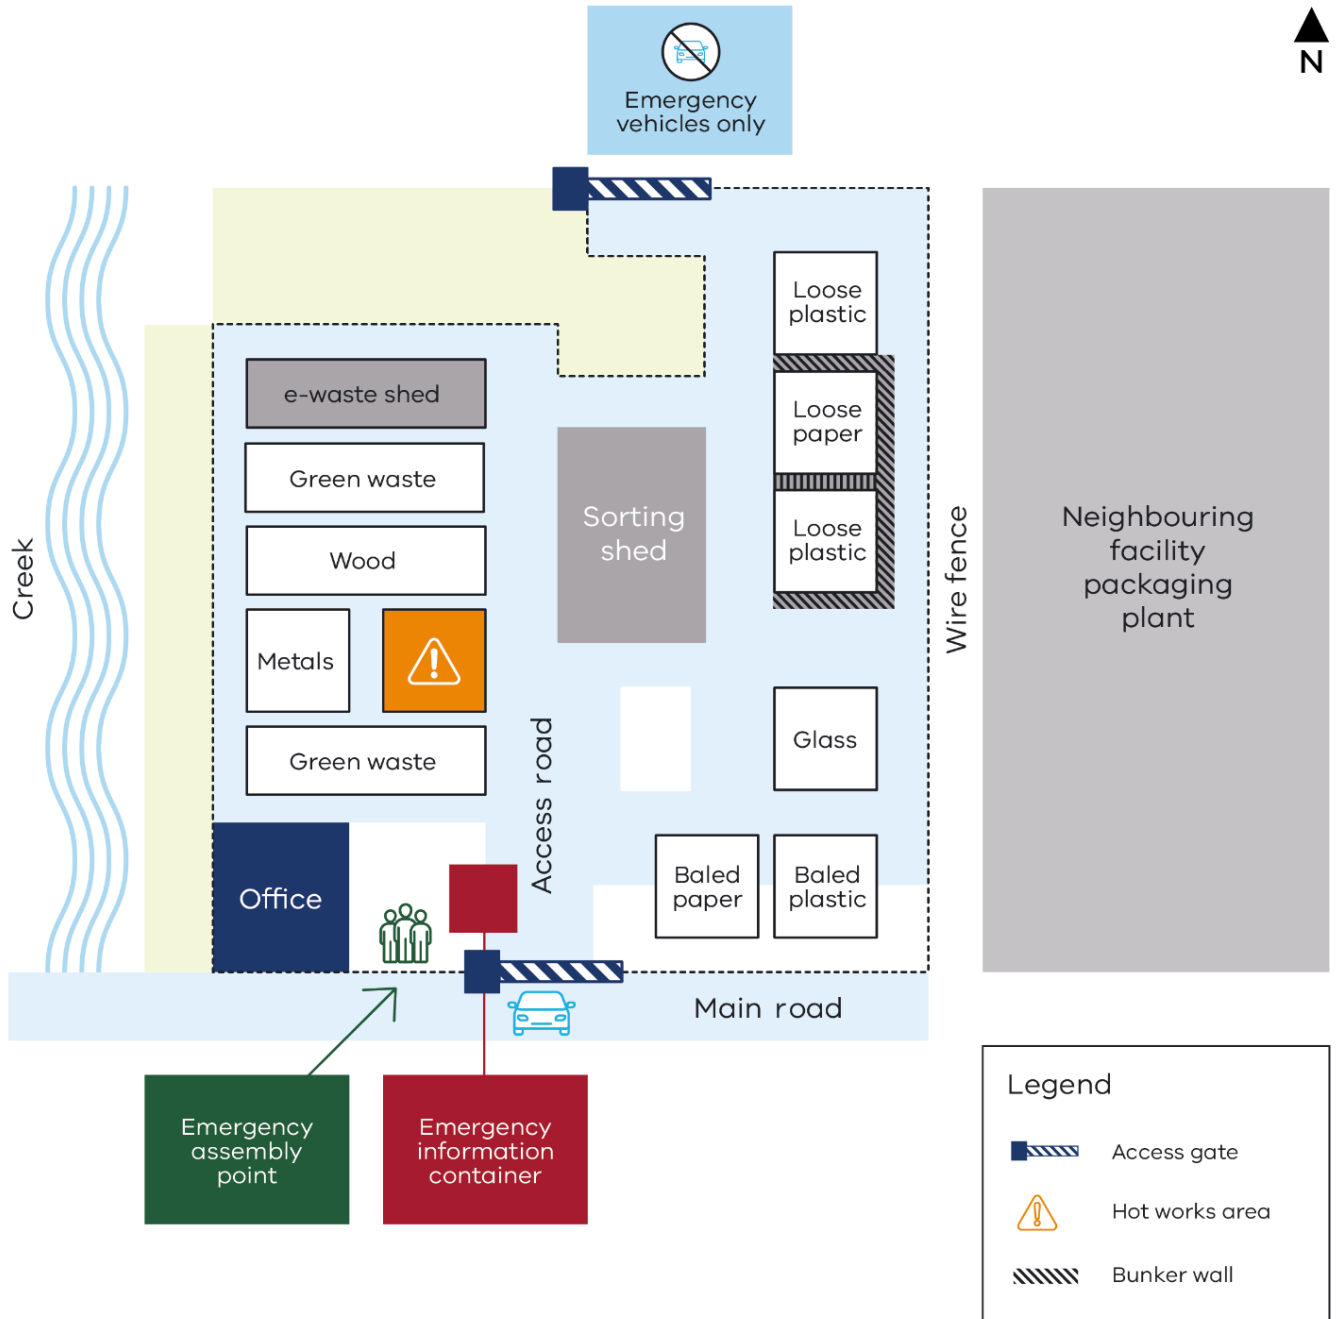

Figure 1: Eric's facility *before* completing his fire risk assessment. Note the figure is not drawn to scale.
- Eric stores e-waste in a small shed, that is designated solely for e-waste storage. See Figure 1 for the layout of Eric's resource recovery facility.